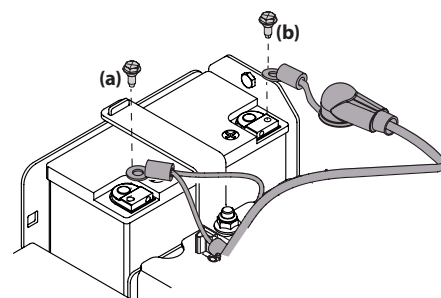

Figure 36
2. Remove the vertical mount bolt securing the black negative battery lead (a) to the negative battery post (marked NEG (-)). Move the cable away from the negative battery post. See Figure 36.
- Remove the vertical mount bolt and hex nut securing the red positive battery lead (b) to the positive battery post (marked POS (+)). Move the cable away from the positive battery post. See Figure 36 on page 24.